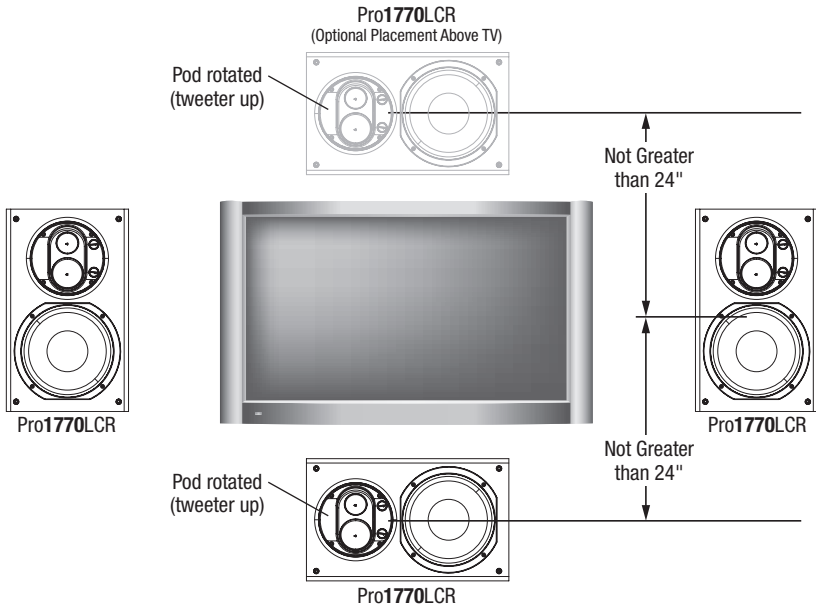

Figure 2. Placing the Stagefront LCR as the center channel loudspeaker above or below a TV.
As for placement height, place front left and right loudspeakers on either side of the picture source so that their tweeters are not more than 24 inches above or below the center-channel loudspeaker's tweeter (see **Figure 2** on page **6**).
- *In a typical installation, place the loudspeaker horizontally, directly above or below the television or projection screen. Try to ensure that the loudspeaker is not placed too high relative to the left and right loudspeaker, as shown in **Figure 2**.*